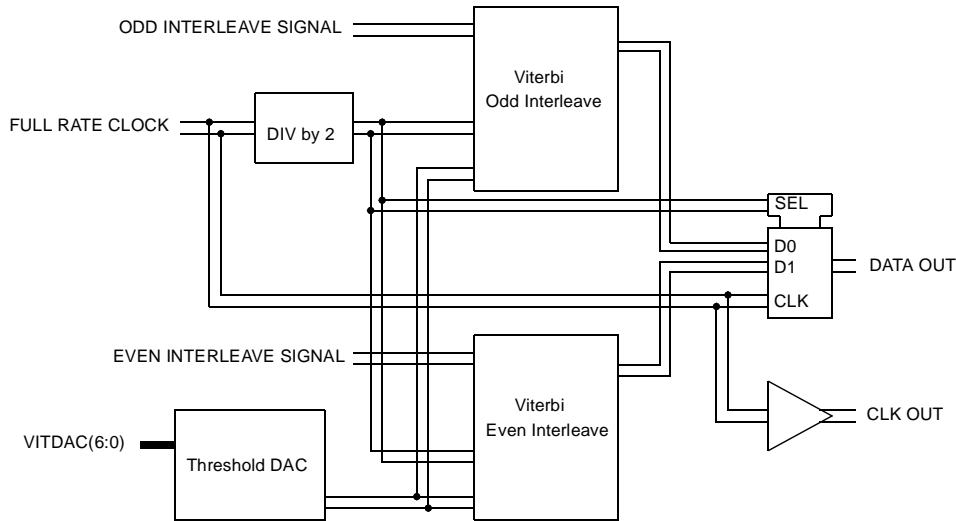

Figure 168 Viterbi Detector Block Diagram
The Viterbi detector implements the maximum likelihood (ML) detector for PRML. The Viterbi detector block diagram is shown in Figure 168.